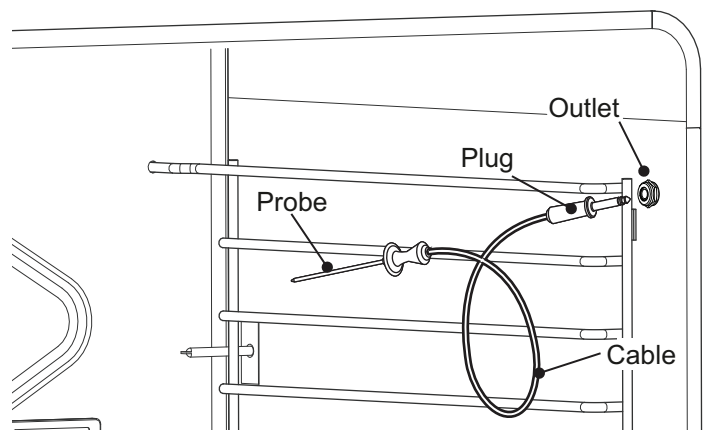

Figure 28: Meat Probe
1. In the large oven locate the outlet (Figure 28).